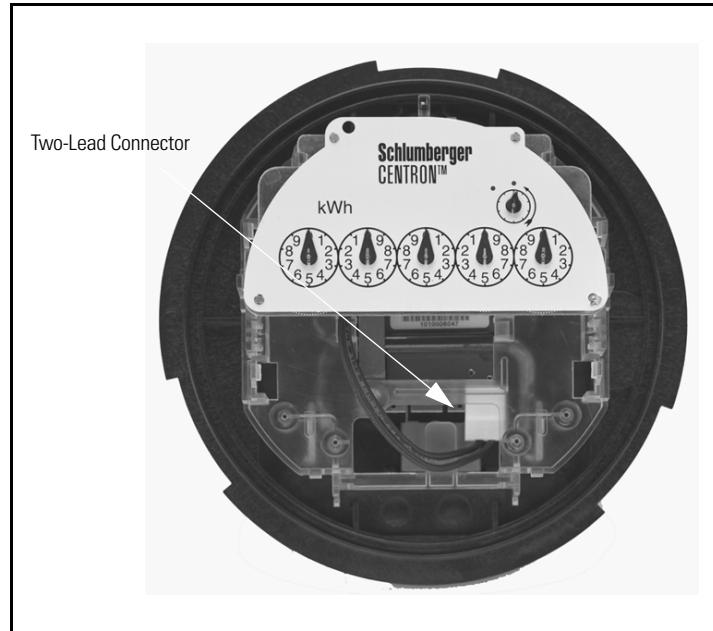

Figure 2.2 Removing the Two-lead Connector
- If a mechanical register is present, remove the two leads that connect the register to the metrology board (see Figure 2.2).